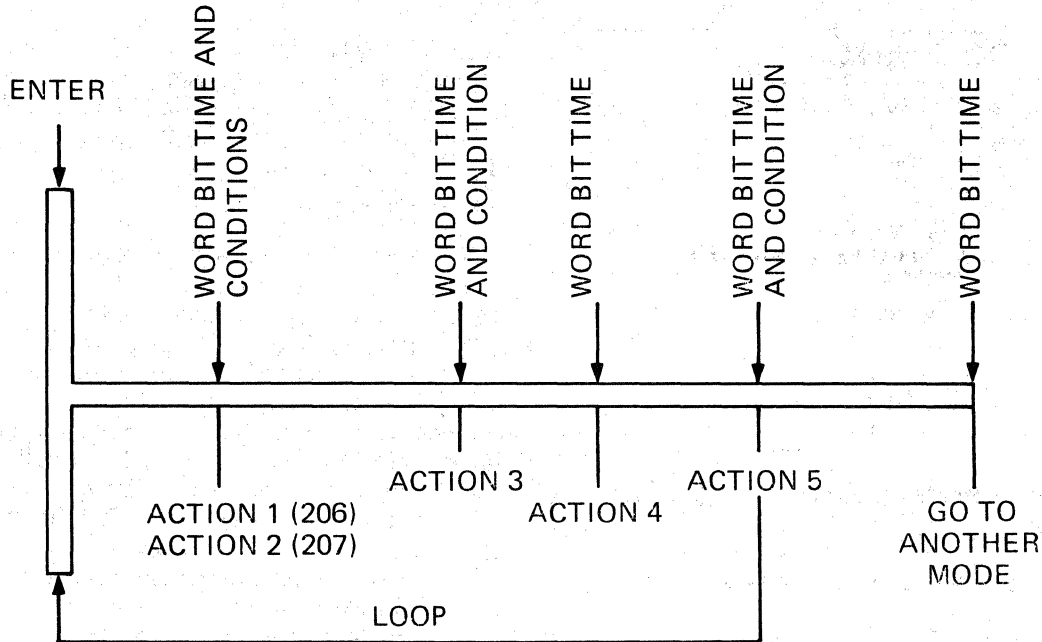

Figure 3-1. Flow Chart Example
An individual mode flow chart is depicted in figure 3-1. The flow generally starts at the top left hand and flows from left to right. If the conditions above the double horizontal line are met, the action below the double horizontal line is performed. The action performed is sometimes different depending on whether the unit selected is a 206 or 207. In some cases 206 or 207 is shown as a condition. In some cases, two actions are given, however, one action has (206) next to it and the other has (207). In some cases the flow splits into two, one for 206 and the other for 207.